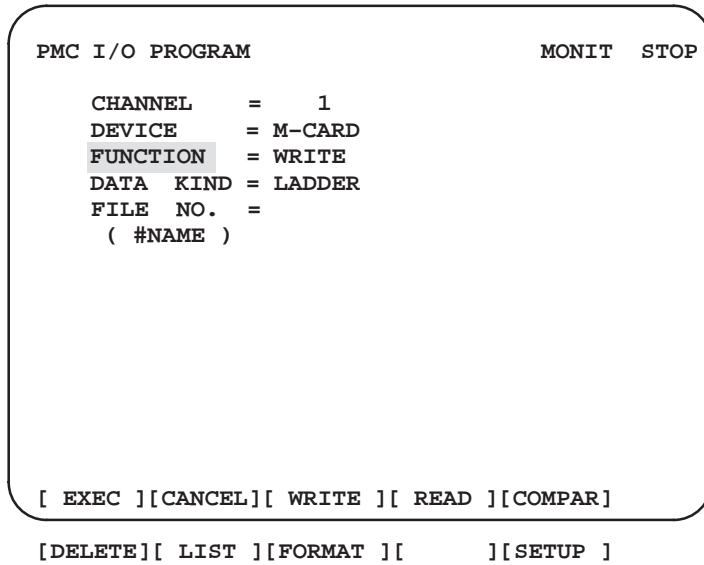

Fig. K.2.1 (a) PMC I/O screen
1) On PMC I/O screen, specify M-CARD as “DEVICE”, WRITE as “FUNCTION”, LADDER as “DATA KIND”, any file name, which is omissible, as “FILE NO.” (See Fig. K.2.1 (a)) and press the soft key [EXEC].